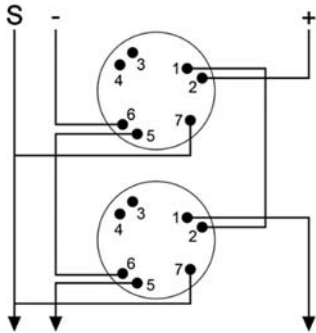

fig 4
- For proper wiring supervision ensure that the cables are wired as shown in fig 4.
Fix the mounting base to the required surface using appropriate fixings. For correct wiring of mounting base refer to fig. 4.
Please refer to fig. 4 for wiring the Red Standard Mounting Base (YBO-R/3(RED)) and the Red Short-Circuit Isolator Mounting Base (YBO-R/SCI(RED)):